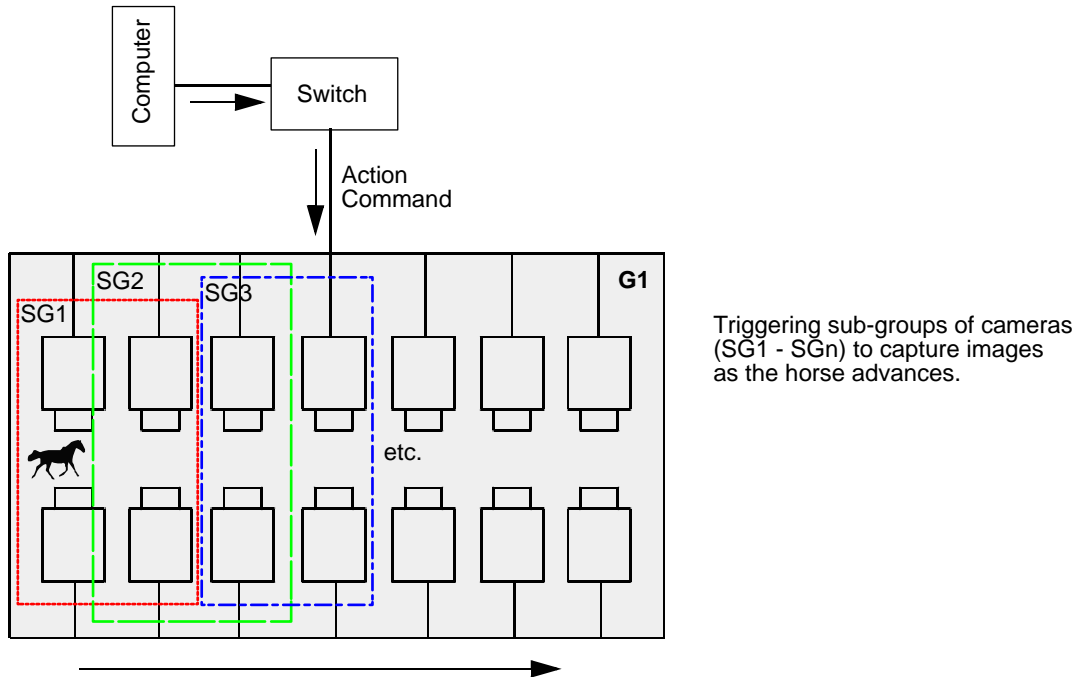

Fig. 111: Example Setup: Analyzing the Movements of a Horse
To analyze the movement of a horse, multiple cameras are installed parallel to a race track. They form a group of cameras (G1, see Figure 111 on page 275).
When the horse passes, four cameras positioned next to each other (sub-group SG1 in Figure 111) synchronously execute an action (in this example: image acquisition).
As the horse advances, the next four cameras (sub-group SG2 in Figure 111) synchronously capture images. One sub-group follows another in this fashion until the horse reaches the end of the race track. The resulting images can be combined and analyzed in a subsequent step.
- The group of cameras in a network segment that is addressed by the action command. In Figure 111, this group is G1.
- The sub-groups in the group of cameras that capture images synchronously. In Figure 111, these sub-groups are SG1, SG2, SG3, and so on.